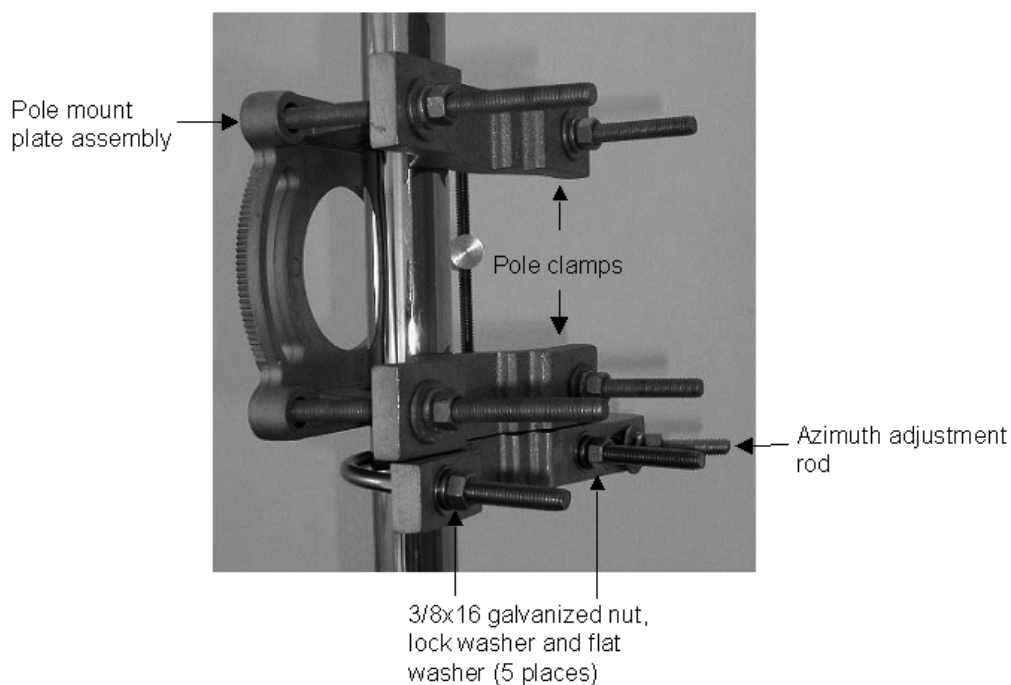

Figure 8-3: Pole Mount Plate
3. Attach the pole mount plate assembly to the mast (see Figure 8-3) using the two pole clamps (101459-1) and four 3/8” x 16 x 6.0 galvanized bolts (101585-600), galvanized split washers (WS38-GV-1), galvanized flat washers (WF38-GV-1) and 3/8” x 16 galvanized hex nuts (NH38-16GV-1).
1. Position the pole mount plate assembly against the mast directly opposite the azimuth adjustment plate as shown in Figure 8-3.
2. Remove the 3/8" hex nut and the flat and split lock washer attaching the azimuth adjustment rod to the pole mount plate assembly, and slip the rod into the azimuth adjustment hole of the azimuth adjustment plate (see Figure 8-3).